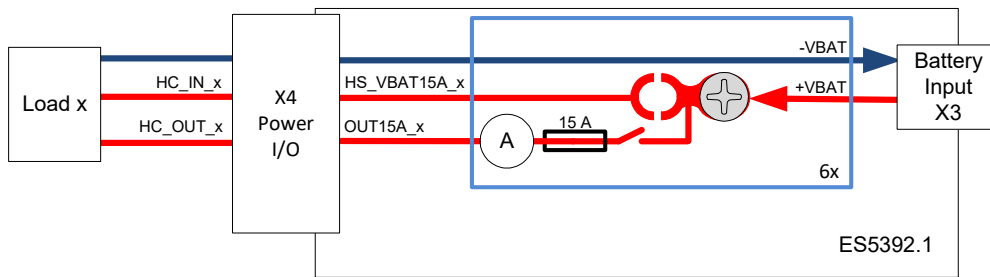

Fig. 3-1 Block diagram of the high current unit of the ES5392.1
The configuration as battery node or high current switch is done via screws. For one channel, the high current unit and the positioning of the screw is shown in Fig. 3-1 on page 32. (see also "Configuration as Battery node Simulation or High Current Switch" on page 23).
- Battery node configuration (right screw as shown in Fig. 3-1) = Potential of +VBAT is switched from X3 to HC_OUT_X